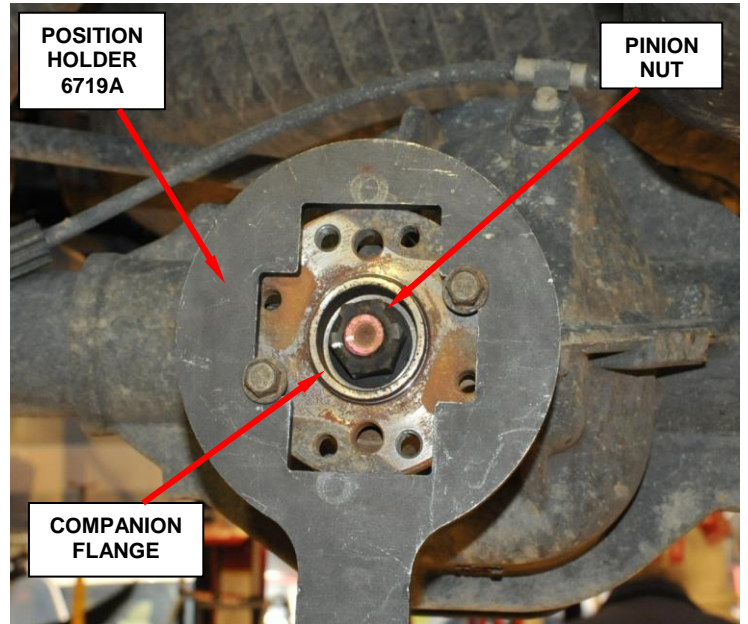

Figure 3 – Install Position Holder 6719A
7. Place the Position Holder 6719A against the companion flange and install a bolt and washer in the threaded holes (Figure 3). Tighten the bolts so the Position Holder 6719A is held to the flange.